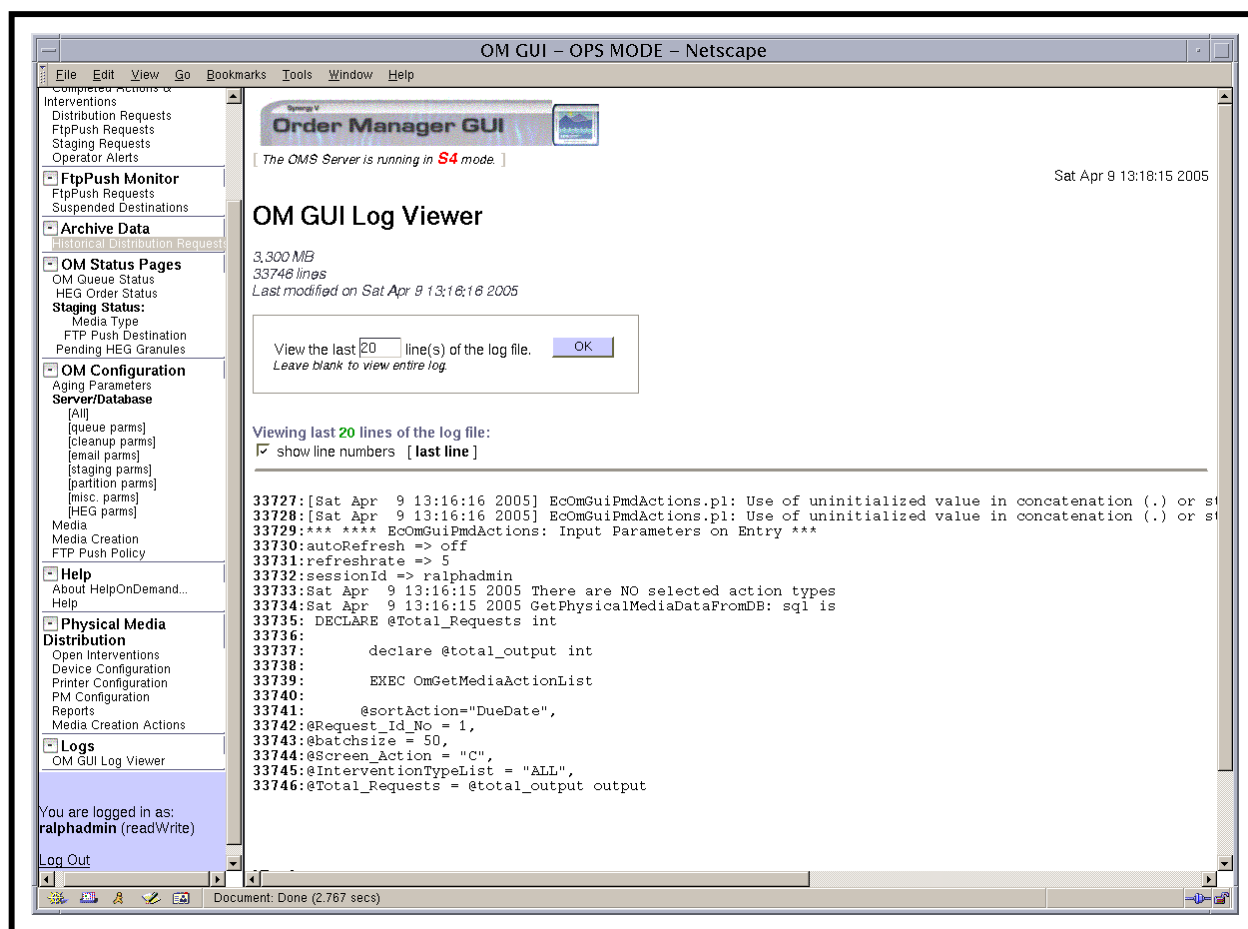

Figure 72. Example of OM GUI Log Contents
- The specified lines from the log file are displayed as shown in the example, Figure 72.